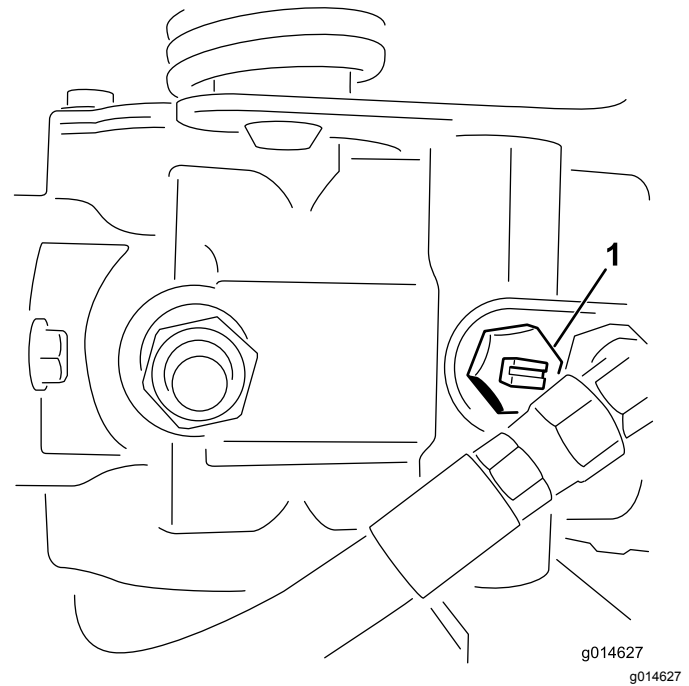

Figure 43
1. Locate the bypass valve on the pump and rotate it so that the slot is vertical (Figure 43).
2. Before starting the engine, close the bypass valve by rotating it so that the slot is horizontal (Figure 43). Do not start the engine when the valve is open.